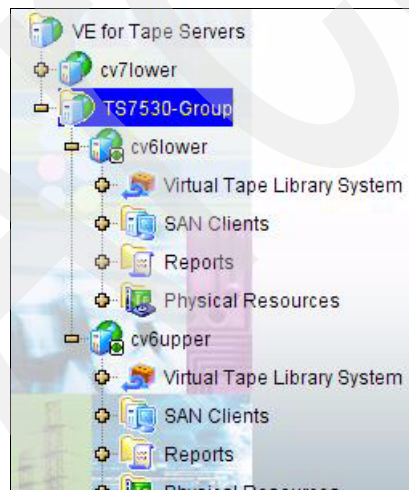

Figure 12-27 Created group
- Select the group that you want to join. Repeat this step for each server that you want to join the group. Once you have added nodes to the group, you should see the window shown in Figure 12-27 on the VE for Tape Console window.